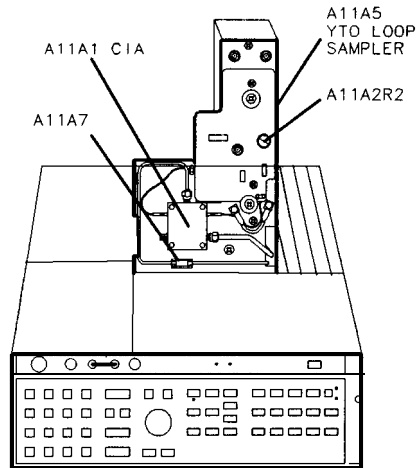

Figure 3-71. All YTO Loop Service Position
5. Install the All YTO Loop Assembly in the Service Position by removing the three screws (marked with the letter A) securing the A1 1 YTO Loop Assembly in the RF Section. Figure 3-71 shows the All service position. Grasp the two metal extractors on the All assembly, and slide the assembly upwards until it just clears the RF Section. Rotate the assembly 90° towards the front of the RF Section and secure the Servicing Support Screw to the threaded
7. Disconnect A1 1A7 6.20 GHz Lowpass Filter/Attenuator/Cable Assembly from the COUPLED OUT connector of A11A1 CIA Assembly. See Figure 3-71 for the location of A11A7.
11. On the RF Section, adjust A11A2R2 GATE BIAS ADJ fully counterclockwise. See Figure 3-71 for the location of A11A2R2.